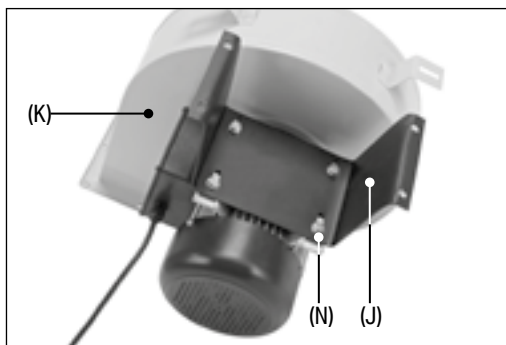

Fig. 2
- a. Align the holes in the base of the motor/ducting unit (K) and the motor support (J).
- b. Pass the four M8 x 25mm bolts (N) each through a washer (Q) and up through the underside of the motor support and motor/ducting unit (Fig. 2).